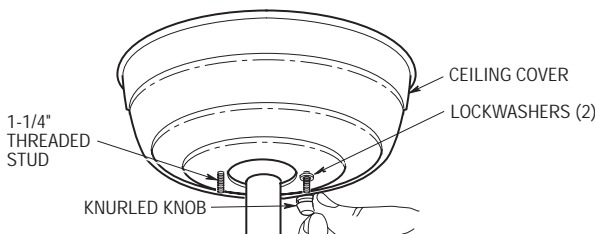

Figure 15A
- 25. Feed the wires and connectors through the open side of the hanger bracket, and into the outlet box. Slide the receiver up and over the hanger bracket. Press the receiver up and over the ceiling and hold it in place. Then lift the ceiling cover up to the threaded studs and turn until studs protrude through the holes in the ceiling cover (Figure 15A).
- 26. Secure the ceiling cover in place by sliding lockwashers (supplied) over the threaded studs and installing the two knurled knobs (supplied). (Figure 15A.) Tighten the knurled knobs securely until the ceiling cover fits snugly against the ceiling and the hole in the ceiling cover is clear of the downrod.